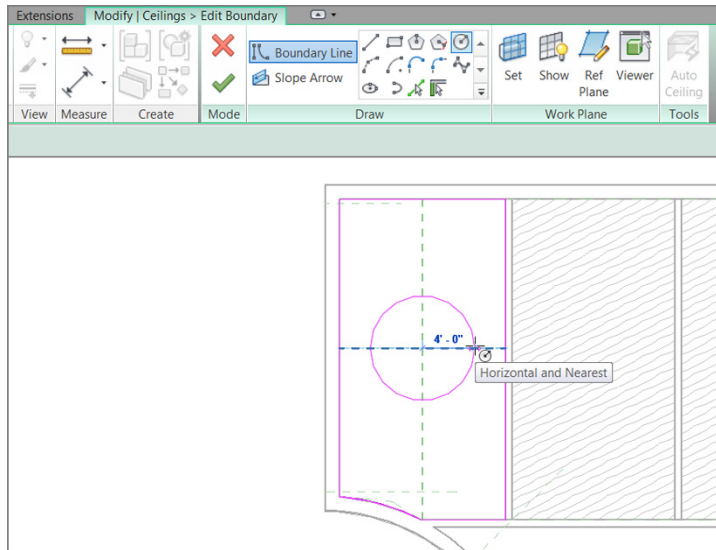

FIGURE 9.25: Sketching a 4'-0" (1200mm) radius circle
7. On the Draw panel, click the Boundary Line button. You see an expanded list of sketch choices. Pick the Circle choice, as shown in Figure 9.25.
8. Draw a 4'-0" (1200mm) radius circle at the intersection of the reference planes (see Figure 9.25).